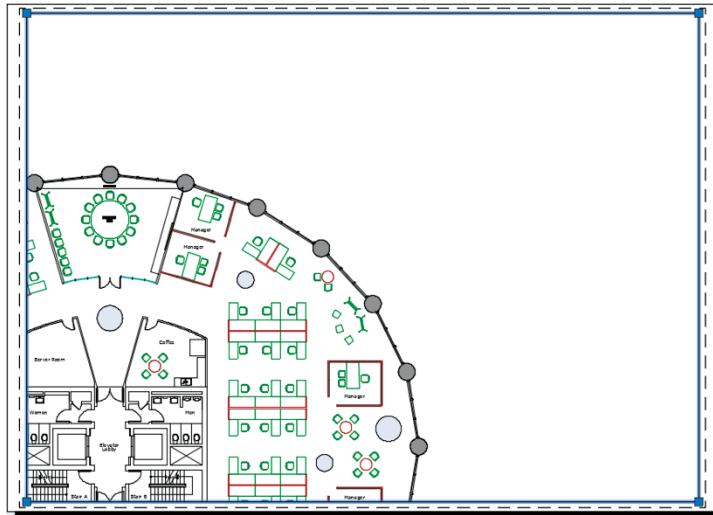

FIGURE 13.18 Scaling the viewport with grips
5. Viewport frames exist in paper space only. Click the viewport frame to select it. Select the upper-right grip, and move it upward until it is close to the upper-right corner of the paper but inside the plot device limits. Click the lower-left grip, and move it to the lower-left corner inside the device limits (see Figure 13.18). Press Esc to deselect.